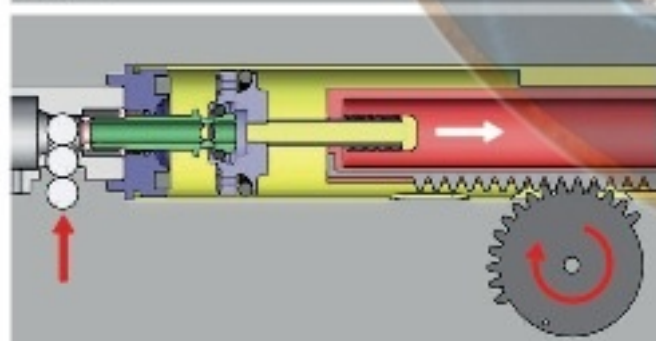

Figure 3
**The nozzle spring and the piston head spring all coherence (Figure 3)**